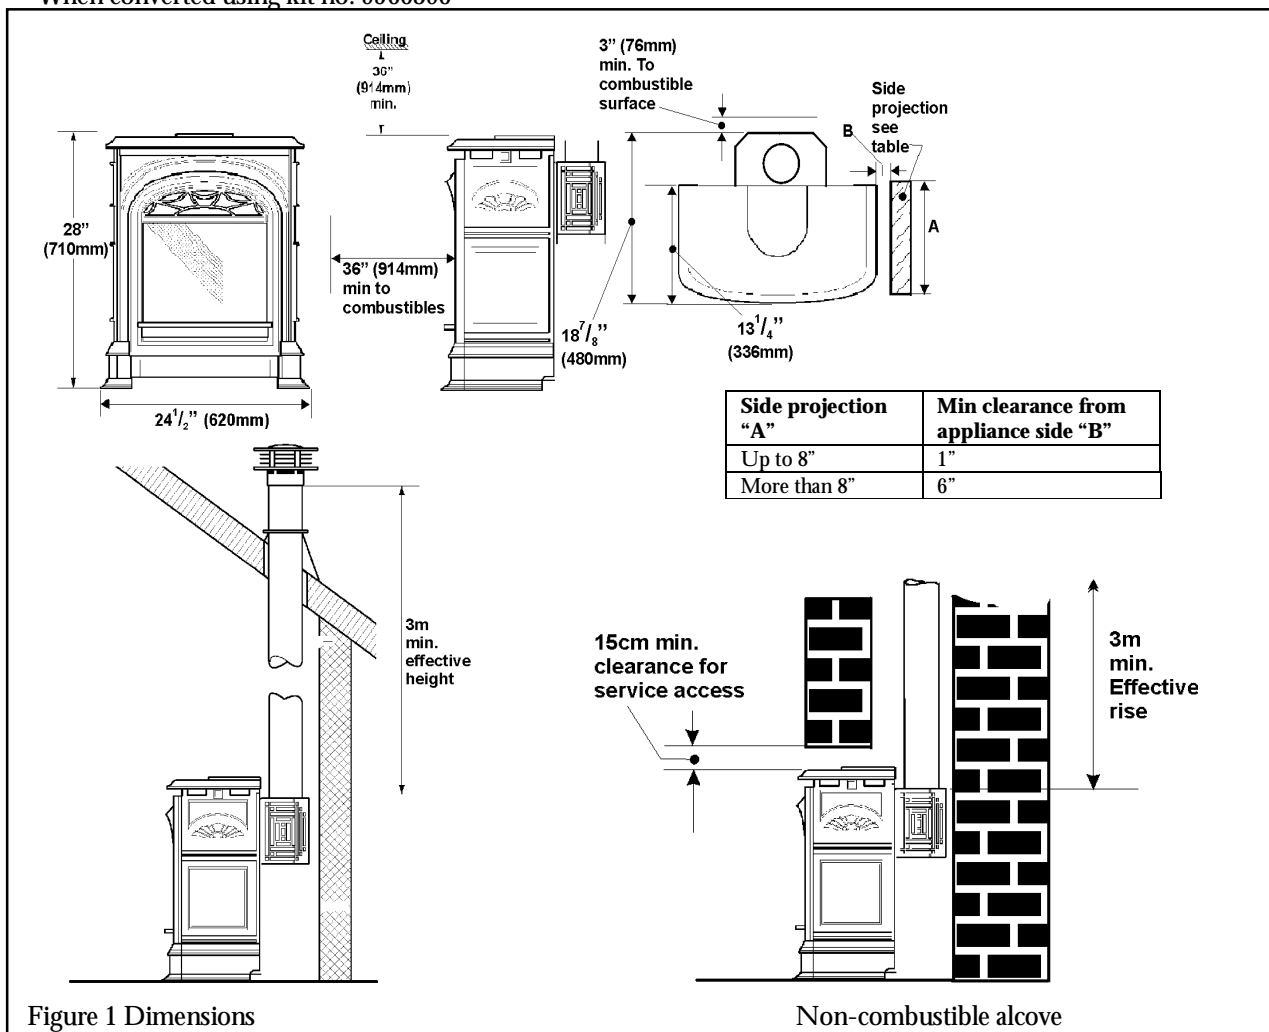

Figure 1 Dimensions
**3.8** Minimum clearances to combustible surfaces and for servicing access are shown in figure 1.